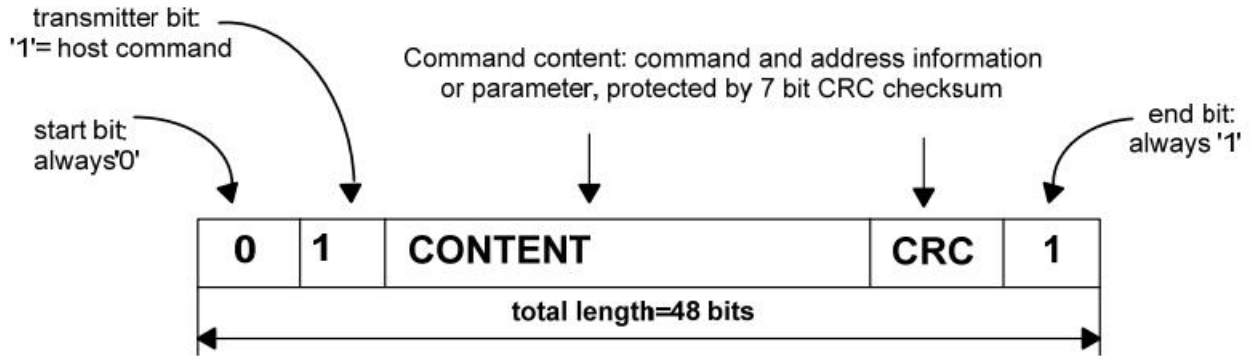

Figure 6.1.2: Command Token Format
Command tokens have the following coding scheme(refer to Figure 6.1.2).,Each command token is preceded by a start bit (0) and succeeded by an end bit (1). The total length is 48 bits. Each token is protected by CRC bits so that transmission errors can be detected and the operation may be repeated.